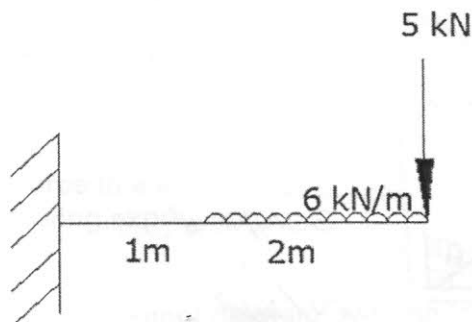

Figure 5 (a)
5. a) A beam AB is loaded as shown in Figure 5 (a). Draw SFD and BMD showing salient features.